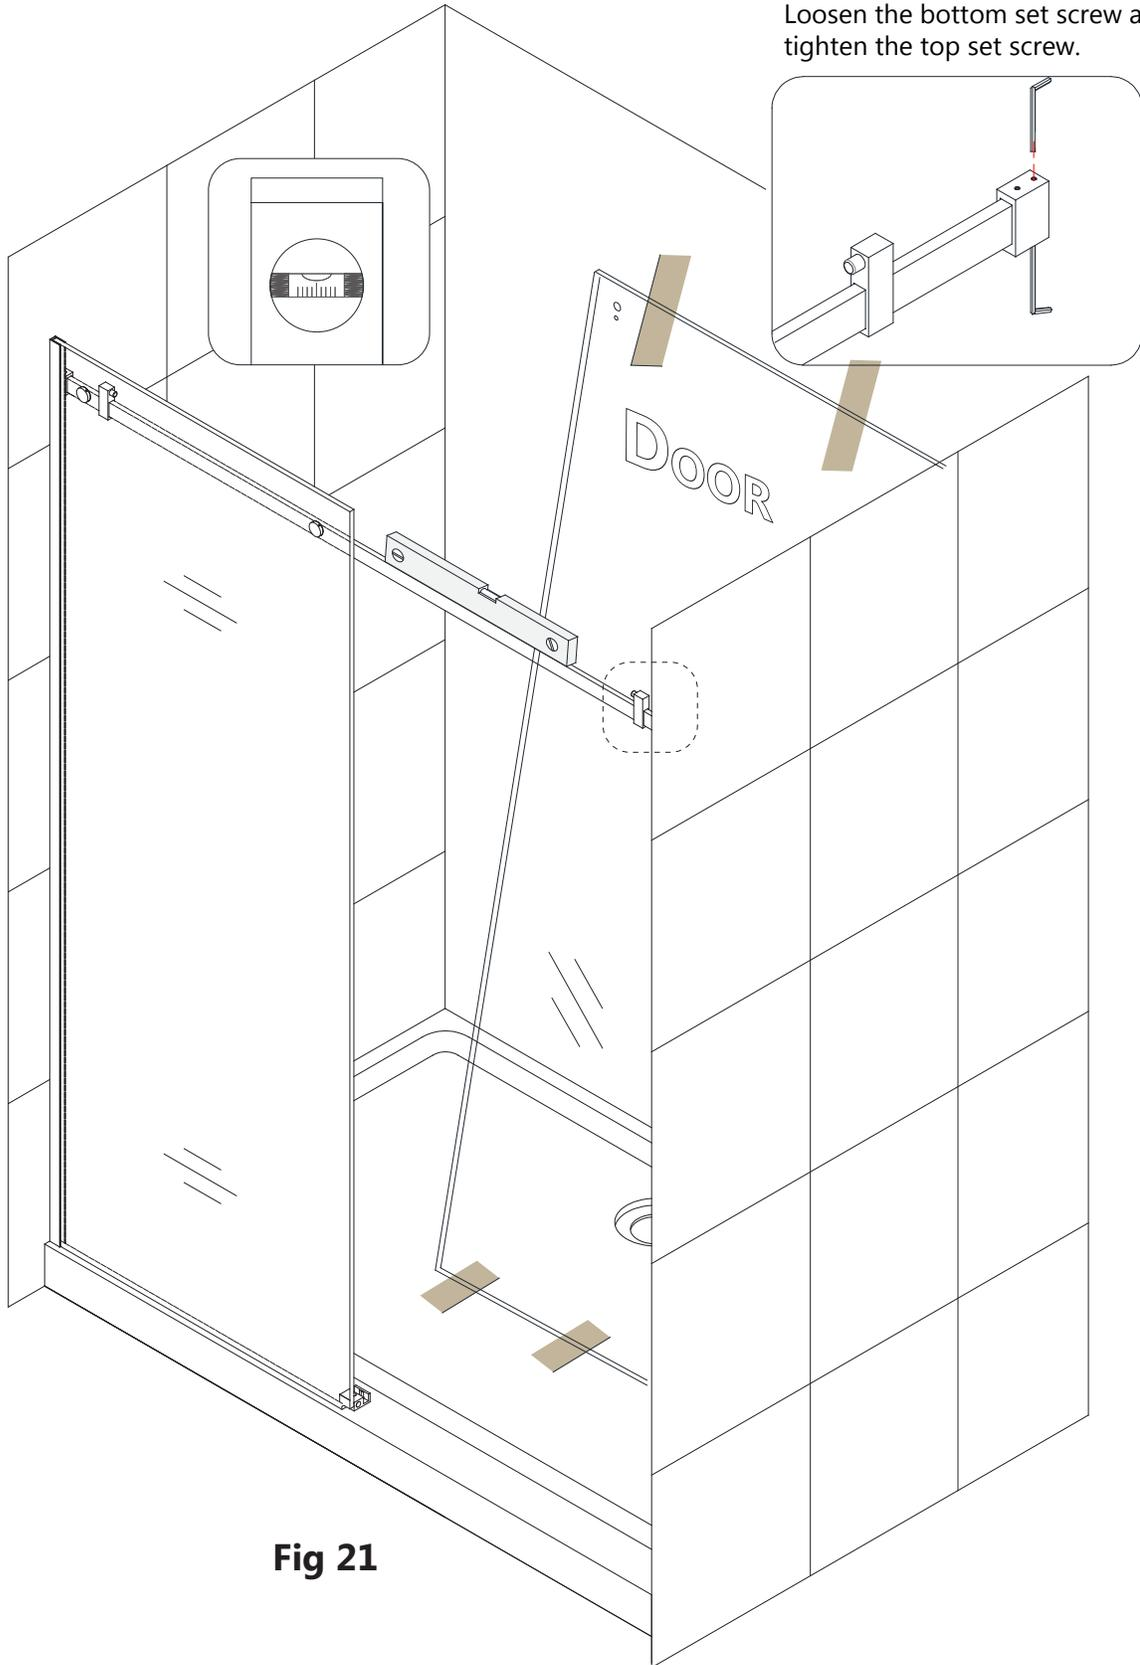

Fig 21
21. Re-check the **Guide Rail (#04)** for level and if necessary, adjust with the set screws on the **Guide Rail Bracket (#06)**. (Fig 21)